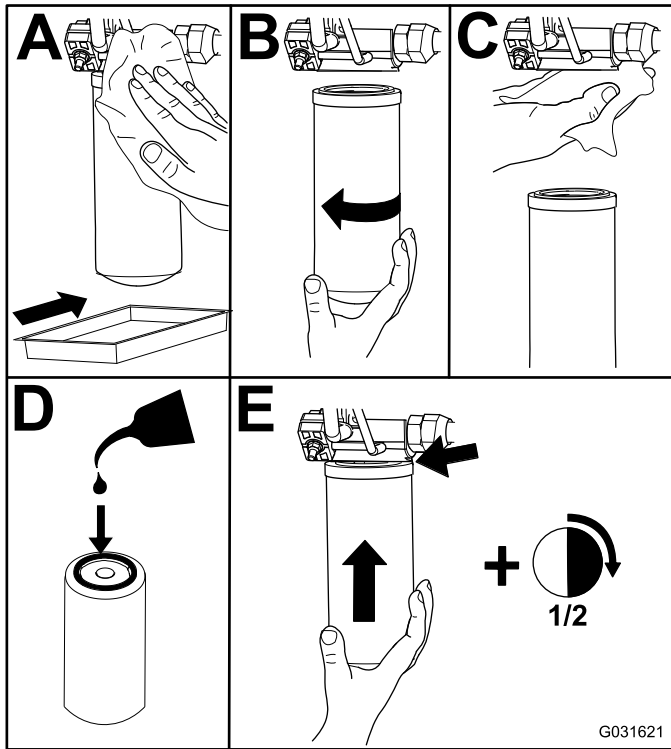

Figure 87
2. Replace the hydraulic filters (Figure 87).